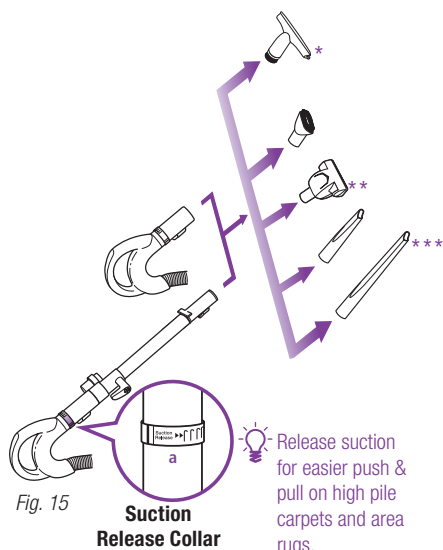

Fig. 15
- 2 Attach desired accessory onto the end of either the extension wand or the handle. **(Fig. 15)**
- 3 **Your vacuum has tremendous suction power. Adjust the amount of suction with the suction release on the handle. Open the valve (a) by rotating the collar 90° counterclockwise for low suction when doing light jobs such as drapes or fine surfaces. Close the valve (a) by rotating the collar clockwise 90° for high suction and when using the hand held accessories. (Fig. 15)**